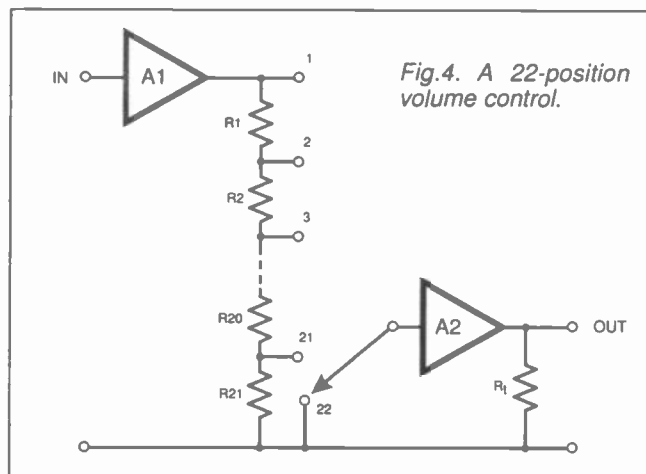

Fig.4. A 22-position volume control.
To design the volume control we will use the simplified situation shown in Fig.4. The volume control is a potential divider placed between two amplifiers, it therefore attenuates the output of the first amplifier, A1, before passing it to A2.
Referring to Fig.4, the switch S1 has 22 positions so there are 21 resistors. The first position (1) bypasses the divider and connects the amplifiers directly together. This is full volume (0dB attenuation). The 22nd position connects the input of the second amplifier to ground so no signal will be output (infinite attenuation): we could label this position "Mute". This leaves 20 remaining positions for different volume levels.
Note that S_n is the equivalent of R_A in Fig.4, if we take the output from just below R_n . By taking the limit in the above equation, in which $n \rightarrow \infty$, we get the value of R_1 (the total resistance of all the resistors).
This is useful because it allows us to calculate the value of the first resistor in the volume control (R_1 in Fig.4) once we have decided on the attenuation step and the total resistance value we want to use. From there we can use the fact that each resistor in the chain can be found by multiplying the previous value by k .